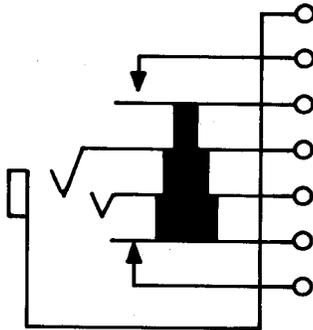

Fig. 20—243-Type Jack
2.20 243A, C, and CM: These single-mounted jacks (Fig. 20) are used with 150, 184, 213, 262, 310, 320, 331, and 349 plugs. These jacks are heavily insulated. The solder-type terminals are arranged to accommodate two No. 19B and S gauge wires. These jacks are arranged for use with a 310 or similar-type plug and mounted with the springs in a vertical plane.